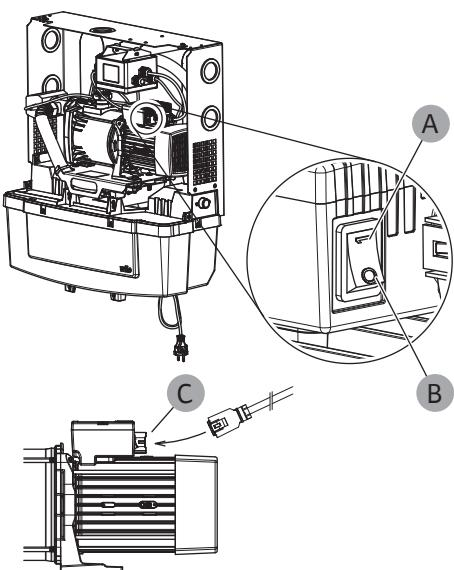

Fig. 23: On/off switch und power supply connection
4. Check that the pump on/off switch is set to ON (Fig. 23 – A).
5. Check that the motor power supply plug (Fig. 23 – C) is properly connected.